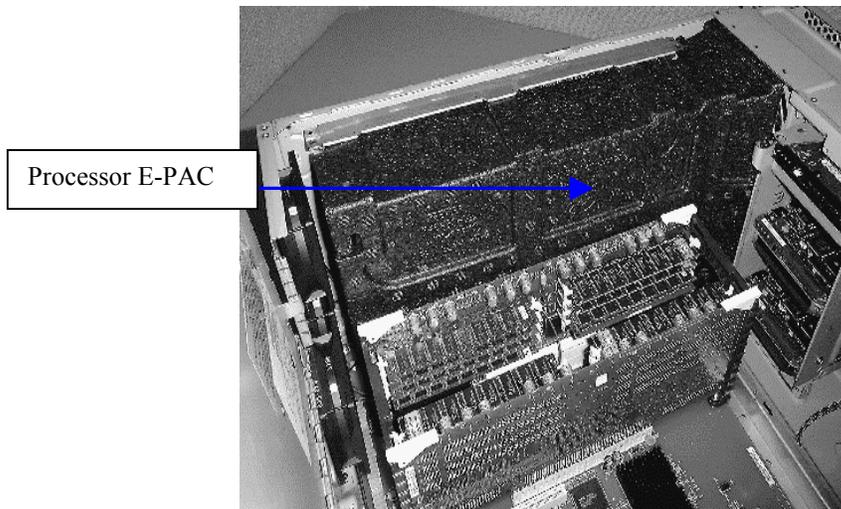

Figure 14. Correct Reinstallation of E-PAC
3. Secure the processor board backing plate to the chassis by replacing the two- (2) Phillips-head screws previously removed in Step 10 of the *Removing the Processor* section.
5. Ensure that the processor assembly is properly seated into the baseboard assembly and that the E-PAC is reinstalled over the processors. Refer to Figure 14.